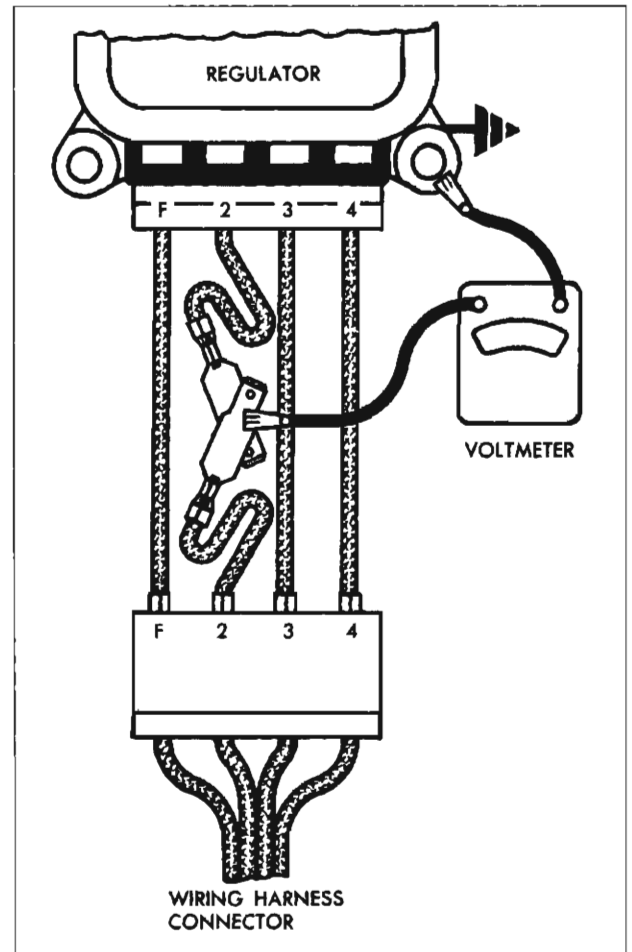

Fig. 10—Checking Field Relay
1. Connect a voltmeter into the system at the regulator No. 2 terminal to ground (fig. 10).